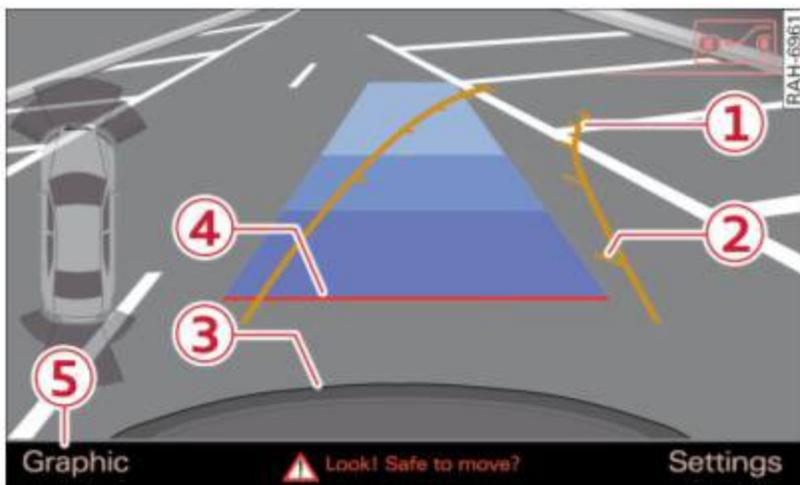

Fig. 132 MMI Display: Aiming at a parking spot
- ▶ Turn the steering wheel until the orange orientation lines ① appear in the parking spot ⇒ *fig. 132*. Use the markings ② to help you estimate the distance from an obstacle. Each marking corresponds to 3 ft (1 m). The blue area represents an extension of the ve-